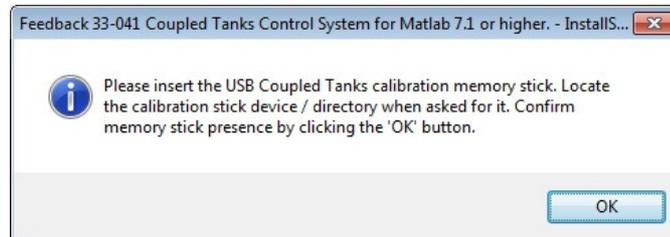

Figure 21 Coupled Tanks Calibration File window
6. Click 'Install' to proceed. The Coupled Tanks Calibration File window will appear (Figure 21).